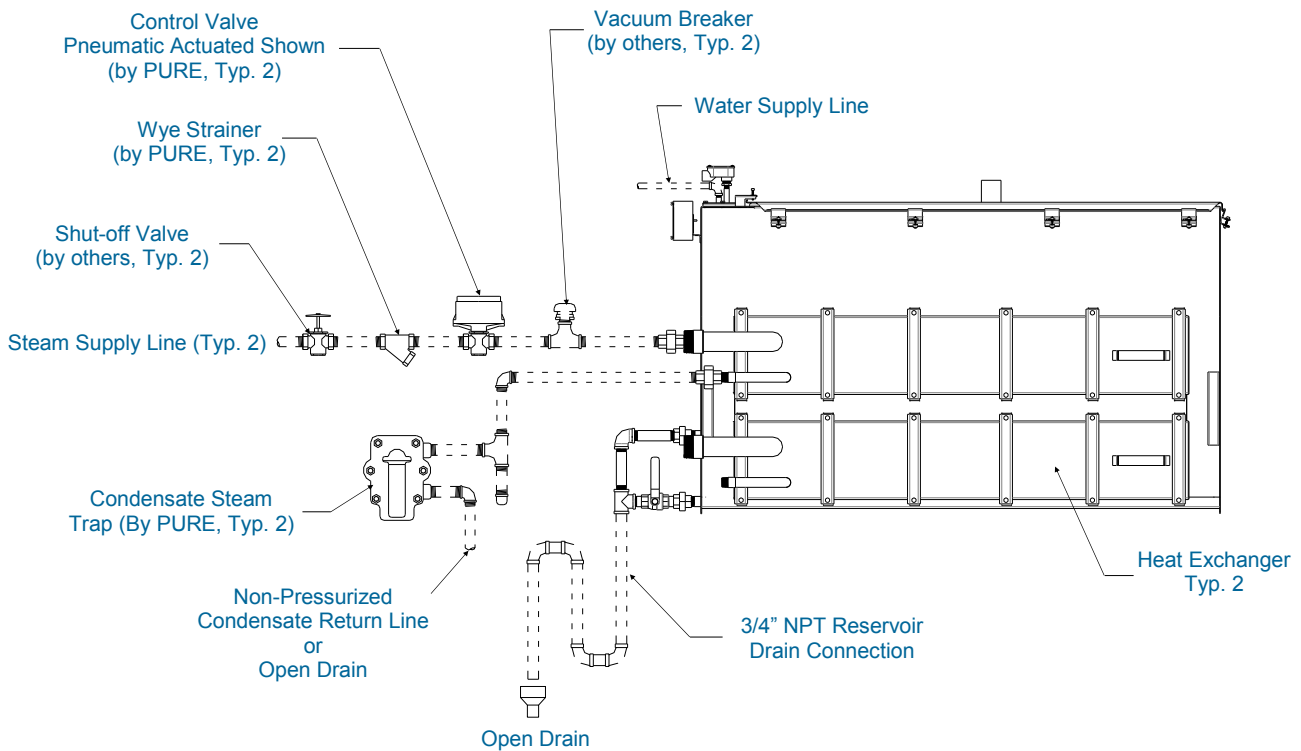

Figure 3
4. A shut-off valve must be installed in the steam supply line prior to the wye strainer (valve by others). Reference Figure 3.